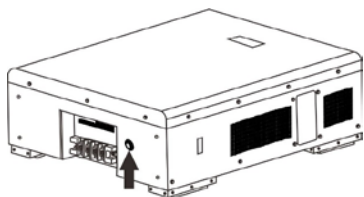

Figure II.13
2. Switch on Lithium battery (Figure II.13).